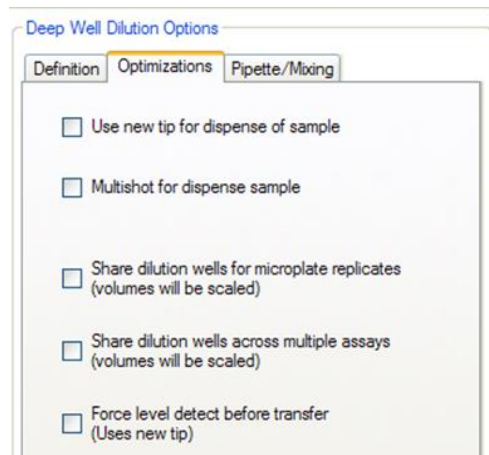

Figure 92: Deep Well Dilution Options
- In the *Optimizations* tab of the *Deep Well Dilution Options* panel, place checkmarks in the checkboxes for each feature that is to be enabled. Refer to Figure 92.